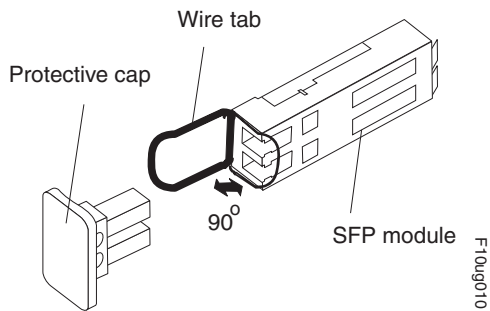

Figure 89. Unlocking the SFP module latch - wire variety
- For SFP modules that contain wire tabs, unlock the SFP module latch by pulling the wire latch outward 90°, as shown in Figure 89 on page 148.